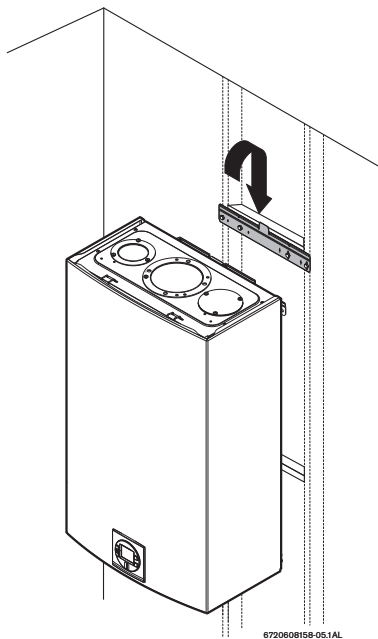

Fig. 31 Mounting the heater
- ▶ Hang the appliance on the bracket, see Fig. 31, page 25.